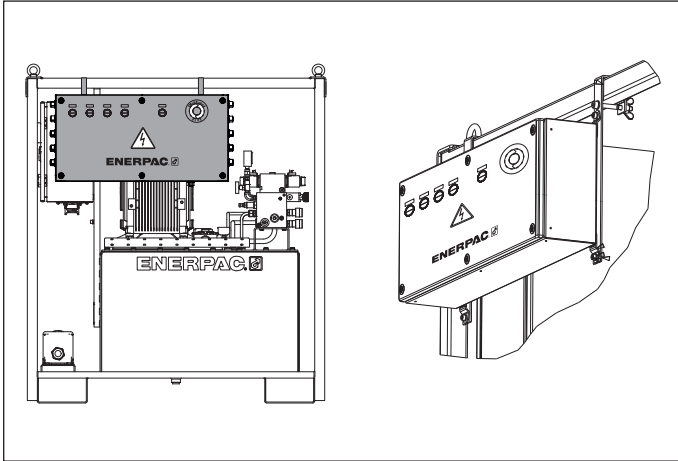

Figure 9, Attachment detail for SFPKSS8
2. Attach the SFPKSS4 or SFPKSS8 as shown in the Figure 9